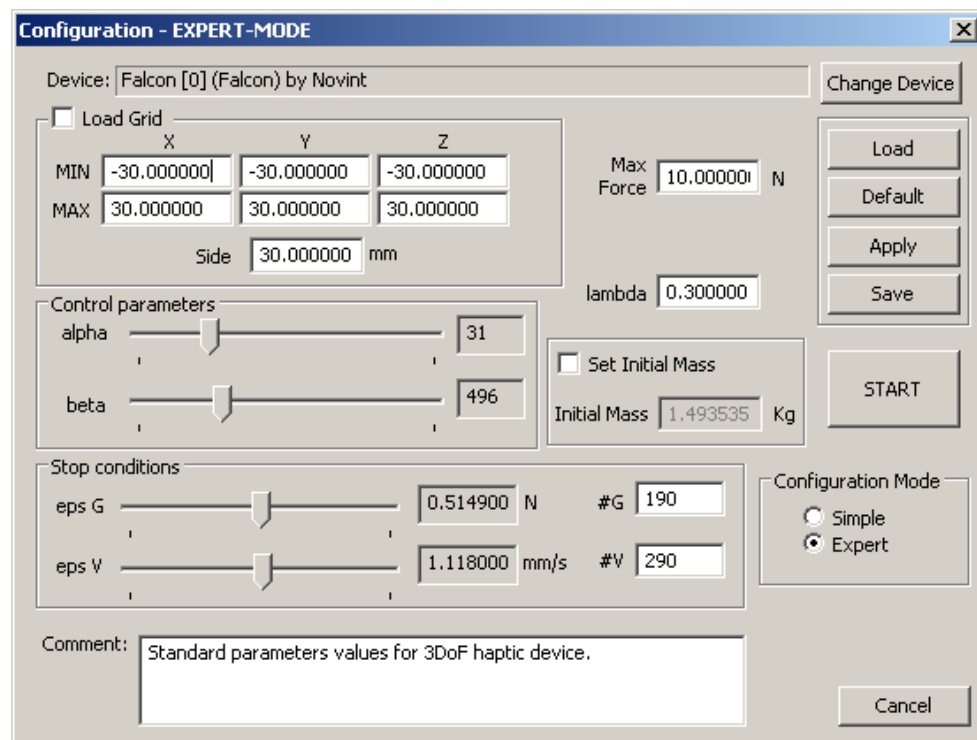

Figure 11: Configuration Dialog - Expert mode.
In the following, a brief description of the advanced settings is reported. Referring to the Figure 11:
- The grid can be loaded by a file (see Fig. 11.(1)).
- The parameters α and β 11.(3) can be set directly. If during the estimation we detect an anomalous behavior of the device (i.e. sudden shots, not accurate vertices etc), we can modify α and β remembering how they influence K_P and K_D , i.e. the parameters of the PD control implemented to drive the haptic device.
- In 11.(5) set the percentage λ of the distance between the casual initial position and the first vertex to estimate to use for the stop condition of the automatic parameters initialization. If the distance from the initial position and the first vertex is large, lower this value. Instead if that distance is small, increase λ .